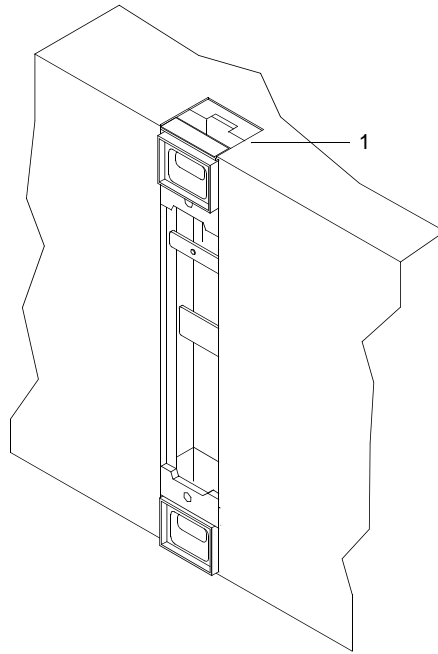

Figure 10. Female Connector
2. Using sledgehammer, strike guillotine (figure 10, item 1) of female connectors until flush with deck.